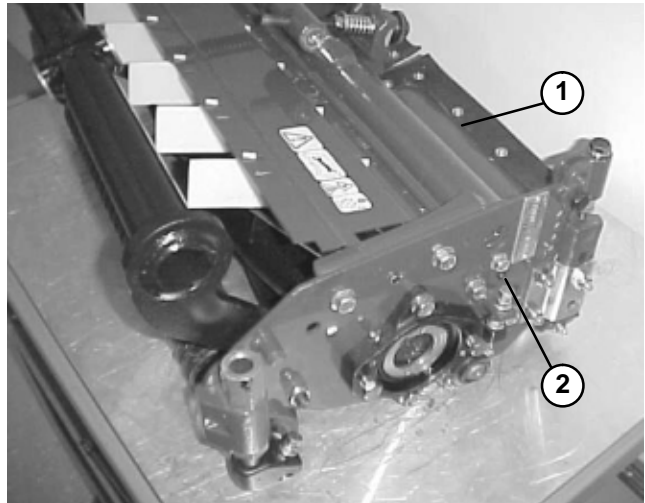

Figure 29
1. To open rear shield (Fig. 29), loosen flange head capscrew securing shield to left side plate, rotate shield to open position and tighten capscrew.